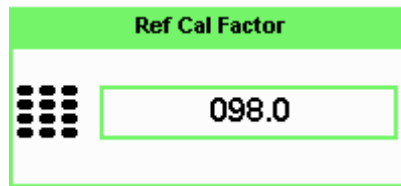

Figure 8-5 Reference calibration factor pop-up window
- 4 To change the settings, press the channel **REF CF** . The reference calibration factor pop up window is displayed as shown in Figure 8-5. Use the numeric keypad to enter the required value in the **Ref Cal Factor** pop-up menu.